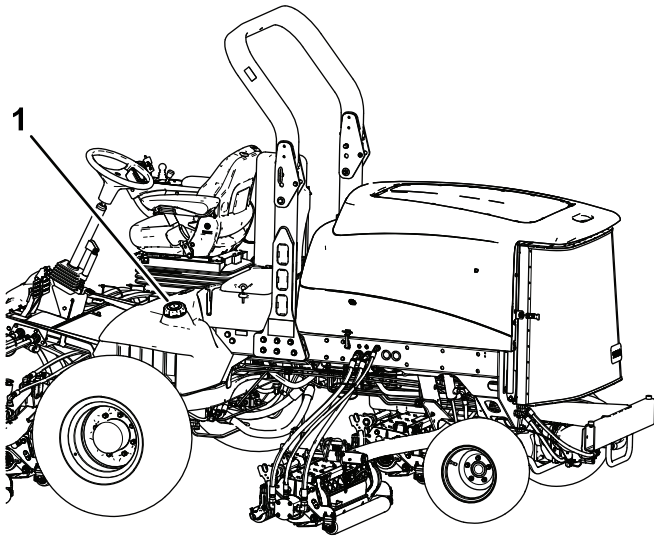

Figure 36
3. Remove the cap from the fuel tank (Figure 36).